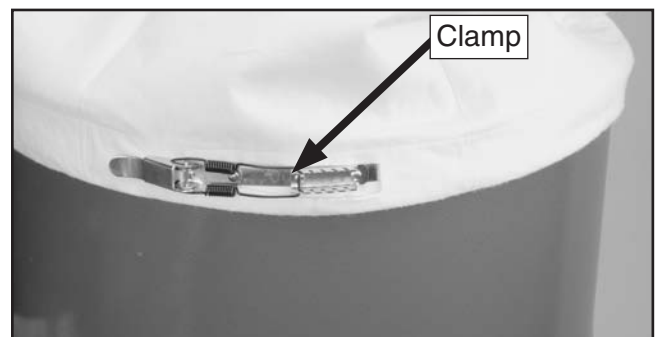

Figure 33. Upper collection bag secured.
- Secure the upper bag to the collector body with the clamp shown in **Figure 33**.